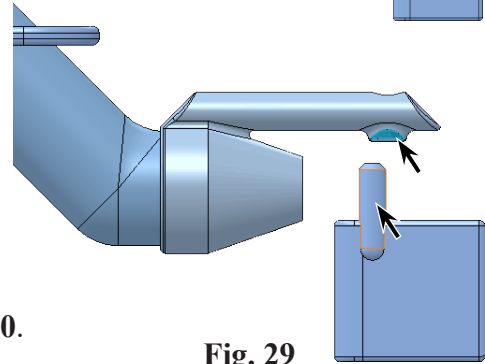

Fig. 29
Step 2. Click a **cylindrical face of Rudder mount in Nozzle** and **cylindrical face shaft of Rudder**, **Fig. 29**.